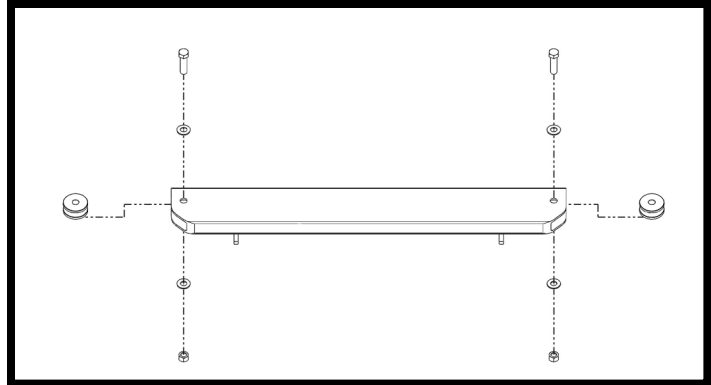

Figure 5
2. Insert Pulley Wheels (2) into Lower Bracket. One into each end.
3. Insert attach using Hardware provide in Kit #3. **Do not over torque.** Pulley must rotate freely. See Figure 5.